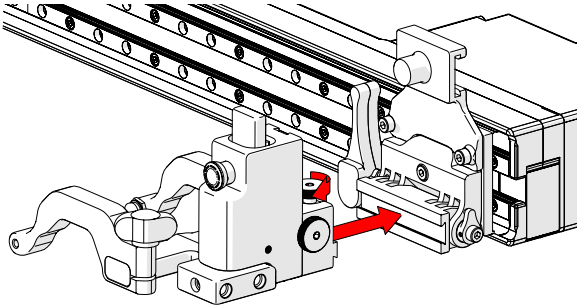

Fig. 154 - Mount probe holder to carrier
1. Loosen the probe holder adjustment knob (*Fig. 154*) and mount the heavy duty vertical probe holder's dovetail jaw to the carrier.